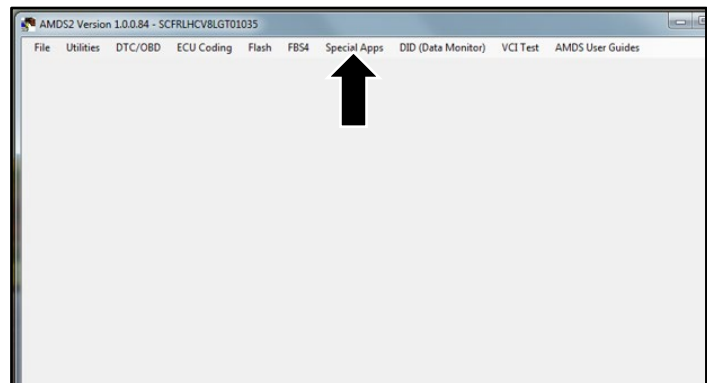

Figure 13
25. In AMDS 2.0 click the "Special Apps" button (refer to Figure 13).